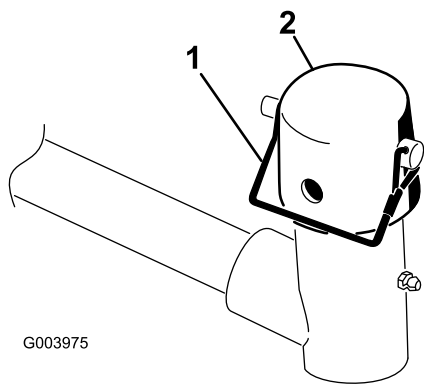

Figure 9
| 6. Lower all the lift arms completely. | 7. Remove the snapper pin and the cap from the lift-arm-pivot yoke (Figure 9). |
11. Secure the cap and the carrier-frame shaft to the lift-arm yoke with the snapper pin. Use the slot if a steering cutting unit is desired or use the hole if the cutting unit is to be locked in position (Figure 9).